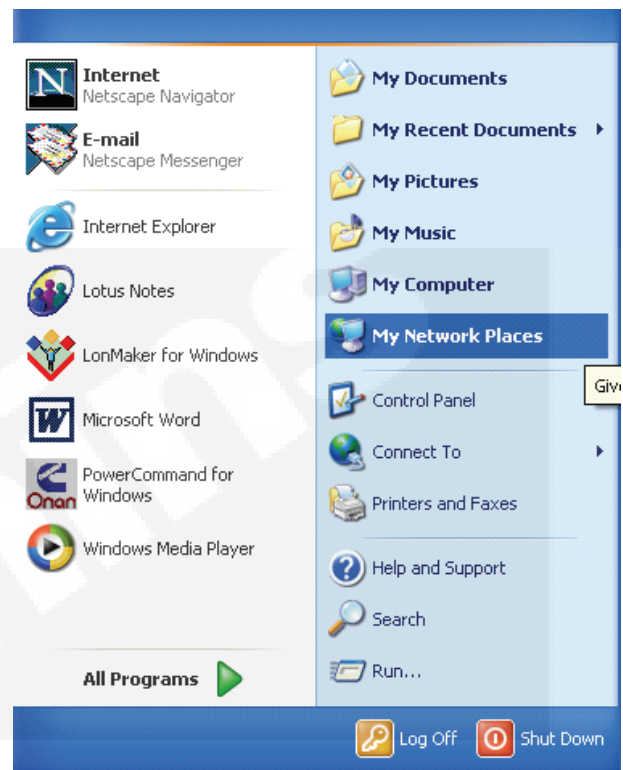

FIGURE A-5. OPENING “MY NETWORK PLACES”
1. Open up the **Start** → **My Network Places** (see Figure A-5).